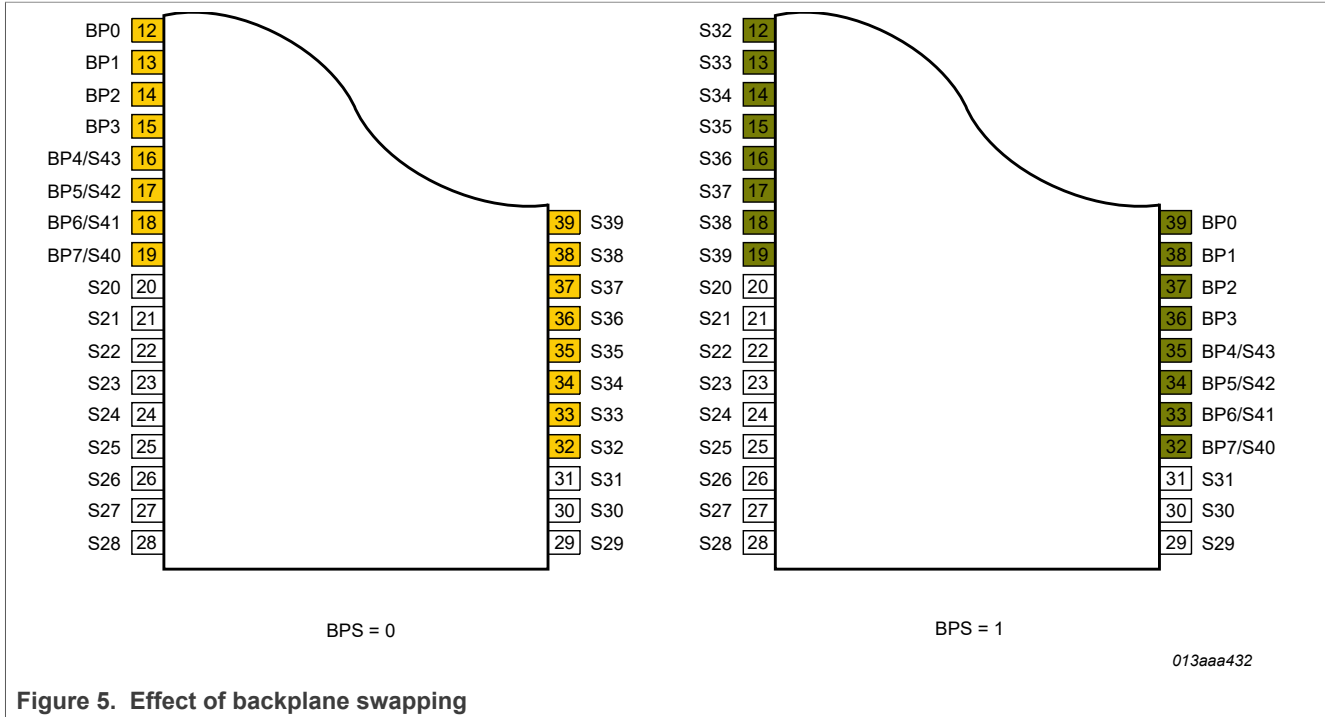

Figure 5. Effect of backplane swapping
- [2] Effect of backplane swapping is illustrated in Figure 5.